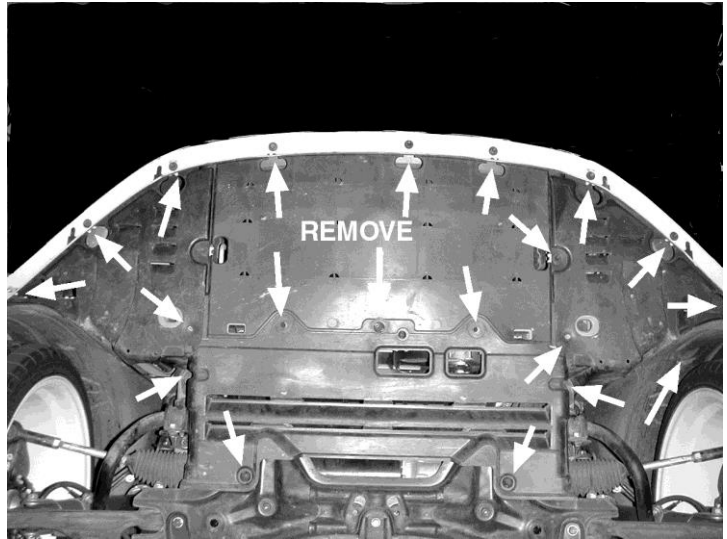

Fig.2
- i. Remove the plastic under trays, and loosen the passenger side fender liner, as shown. **(Fig. 2)**